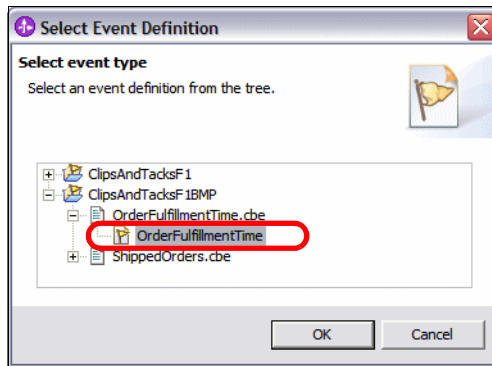

Figure 12-56 Select the event for the alert
- ▶ In the Outbound Event Details click *Browse* for Type. Select the *ClipsAndTacksF1BMP* → *OrderFulfillmentTime.cbe* → *OrderFulfillmentTime* event definition (Figure 12-56).